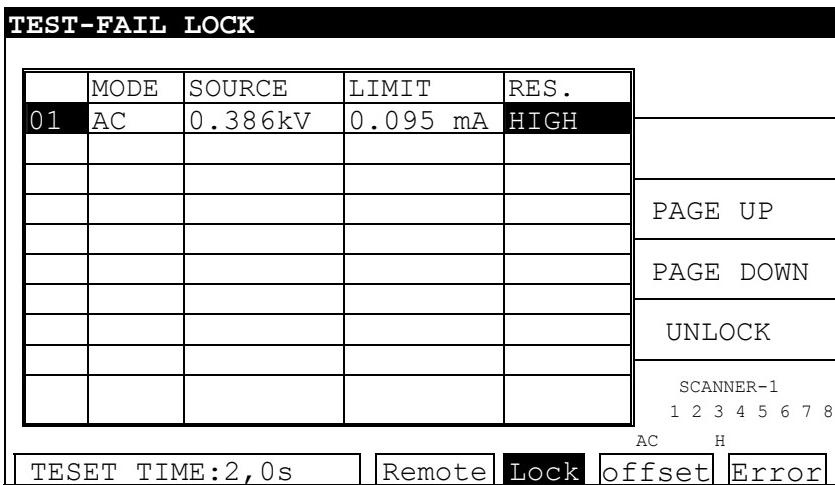

Figure 4-5
4. When FAIL LOCK function activated, if DUT is judged as FAIL then it will show Figure 4-5.